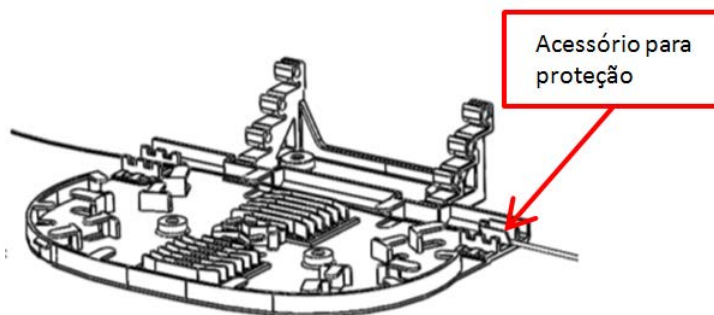

Figure 20
- 1.5.7 Place the tube in the location highlighted in Fig.20; and place the foam on top.